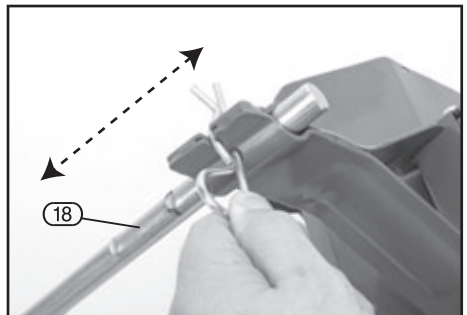

FIG.14
9.6 TILLING DEPTH ADJUSTMENT - FIG. 14